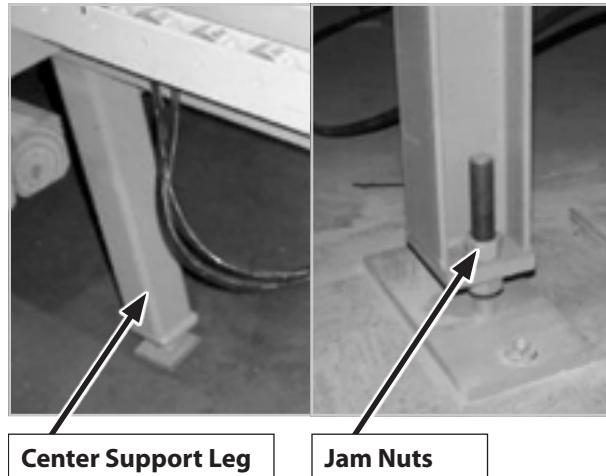

Figure 91
- If necessary, adjust the leveling legs (Figure 91).